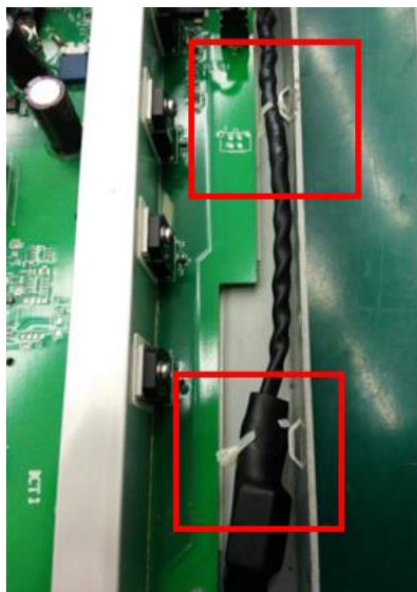

Figure 16
17. Insert 2 cable ties (1400-3204) to secure the AC line cable as shown in Figure 16.